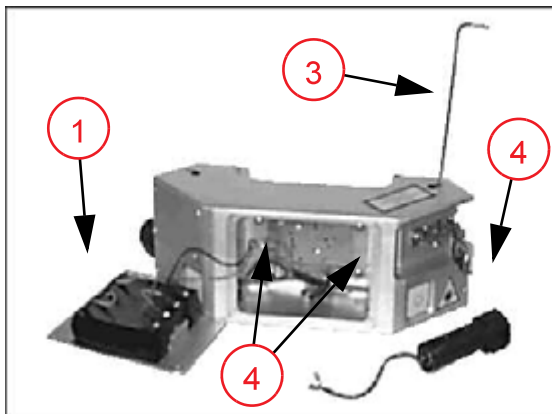

Fig. 6: Replacing the laser diodes
- Unscrew the battery compartment (1/Fig. 6 / p. 14).
- Disconnect the cable of the defective laser diode (2/Fig. 6 / p. 14).
- Loosen the clamping screw of the defective laser diode (3/Fig. 6 / p. 14).
- Pull the laser diode out of the housing (4/Fig. 6 / p. 14).